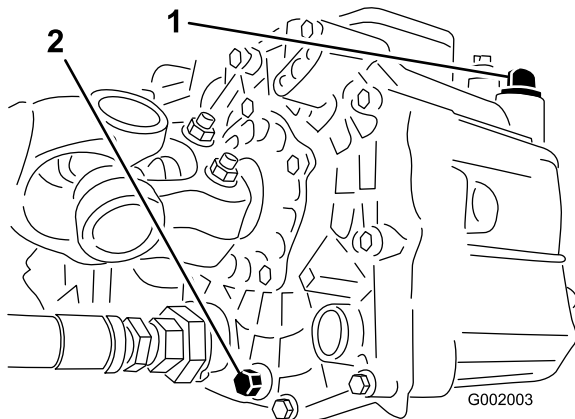

Figure 66
- Remove the drain plug from the side of the reservoir and let the hydraulic fluid flow into the drain pan (Figure 66).